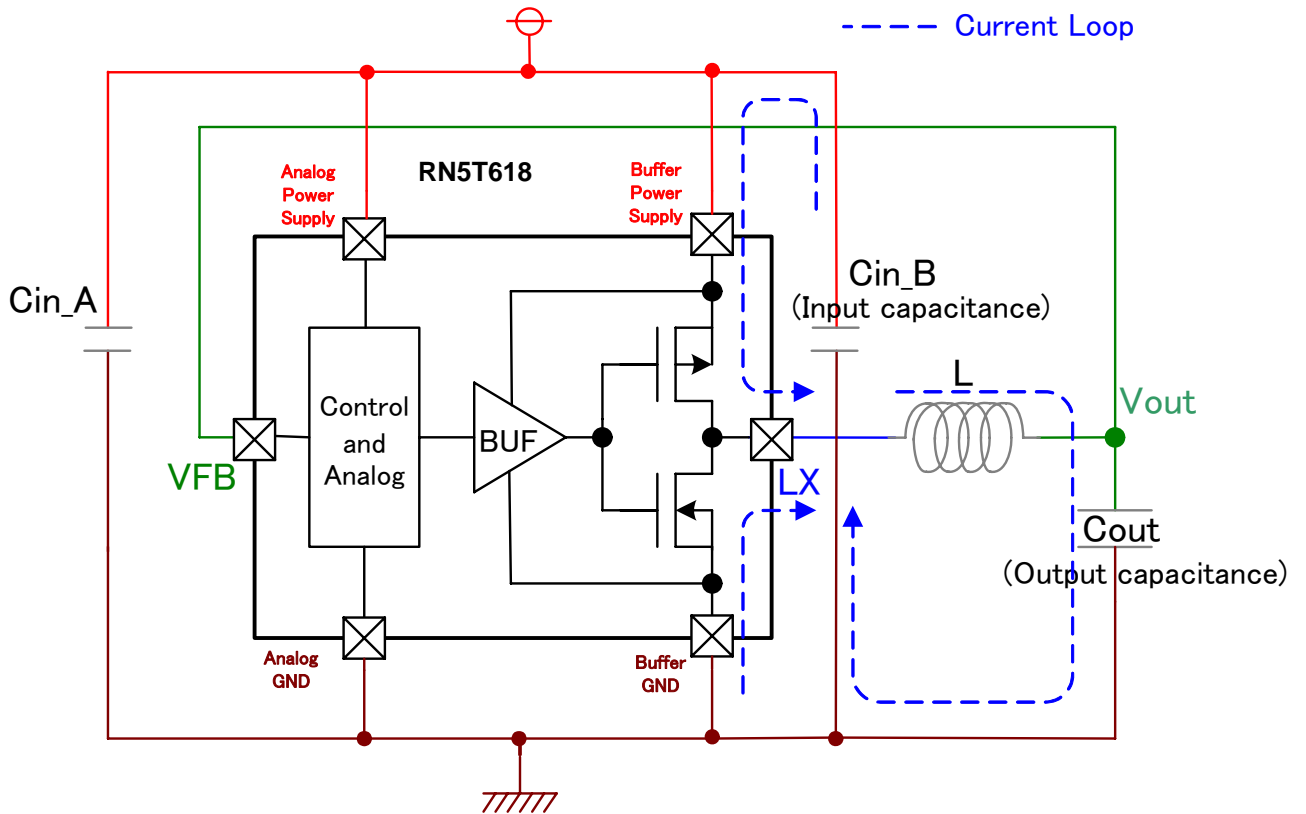
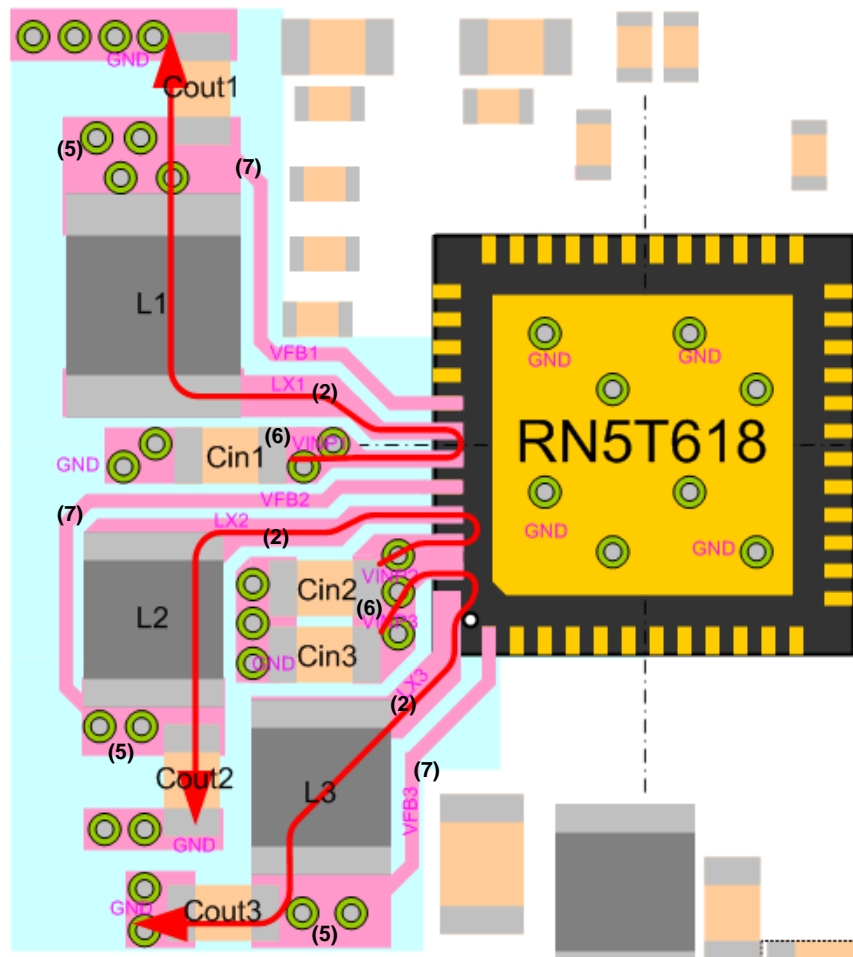

Fig. 1-1: Simplified Schematic for DCDC1, DCDC2, and DCDC3
Fig. 1-2: Example of DCDC Block Board Pattern (Top Layer)
- (1) Place the parts to minimize the switching current loop (Figure 1-1: blue line, Figure 1-2: red line).
- (2) Route the LX line as short and wide as possible between RN5T618 and an inductor, and prohibit adding other redundant lines on it.
- (3) Connect the ground line of “Cout” directly to the internal ground plane with multiple vias, in order to reduce impedance as small as possible. (Target: 50mΩ or less)
- (4) Connects TABGND* of RN5T618 to ground plane with very low impedance.
- (5) Pull out the output of DCDC from near not “L” but “Cout”.
- (6) Place “Cin” as close as possible to RN5T618. (Higher priority level is “Cin” < L < “Cout” in the close distance order with RN5T618.)
- (7) Keep VFB line away from noise and route the line trying not to interfere each other's DCDC. It is no need to widen the feedback line to RN5T618 because the current is little flown. But, derive from nearby COUT to monitor accurate voltage. And it's preferable to route the VFB line in the different layer from noise source. In addition, it should not pass under the Inductors.